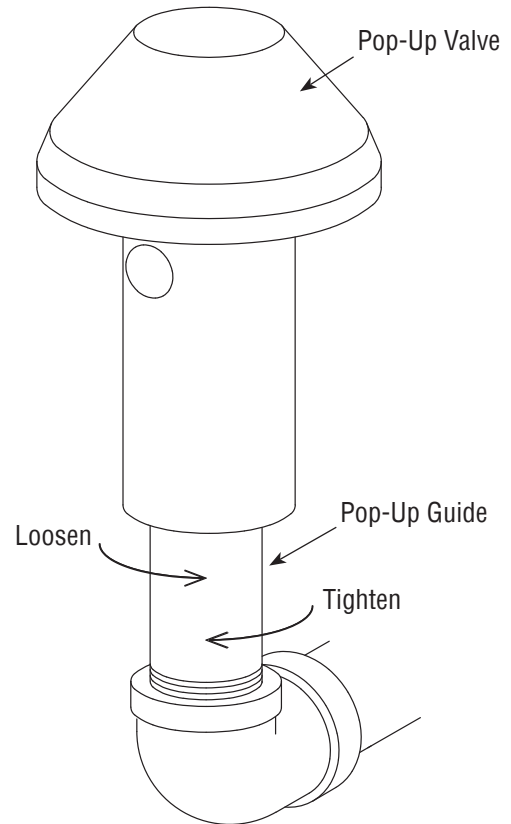

FIGURE 14
7.6.5 | Use a short pipe wrench to unscrew the pop-up valve guide from the elbow by turning it counterclockwise, as shown in **Figure 14**. Remove the pop-up valve and guide from the machine.